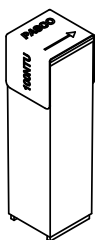

Figure 2. A cuvette with the 100 NTU label placed over the cap, with the expiration date label attached.
2. Place a 100 NTU label over the cuvette cap. (See Figure 2.)